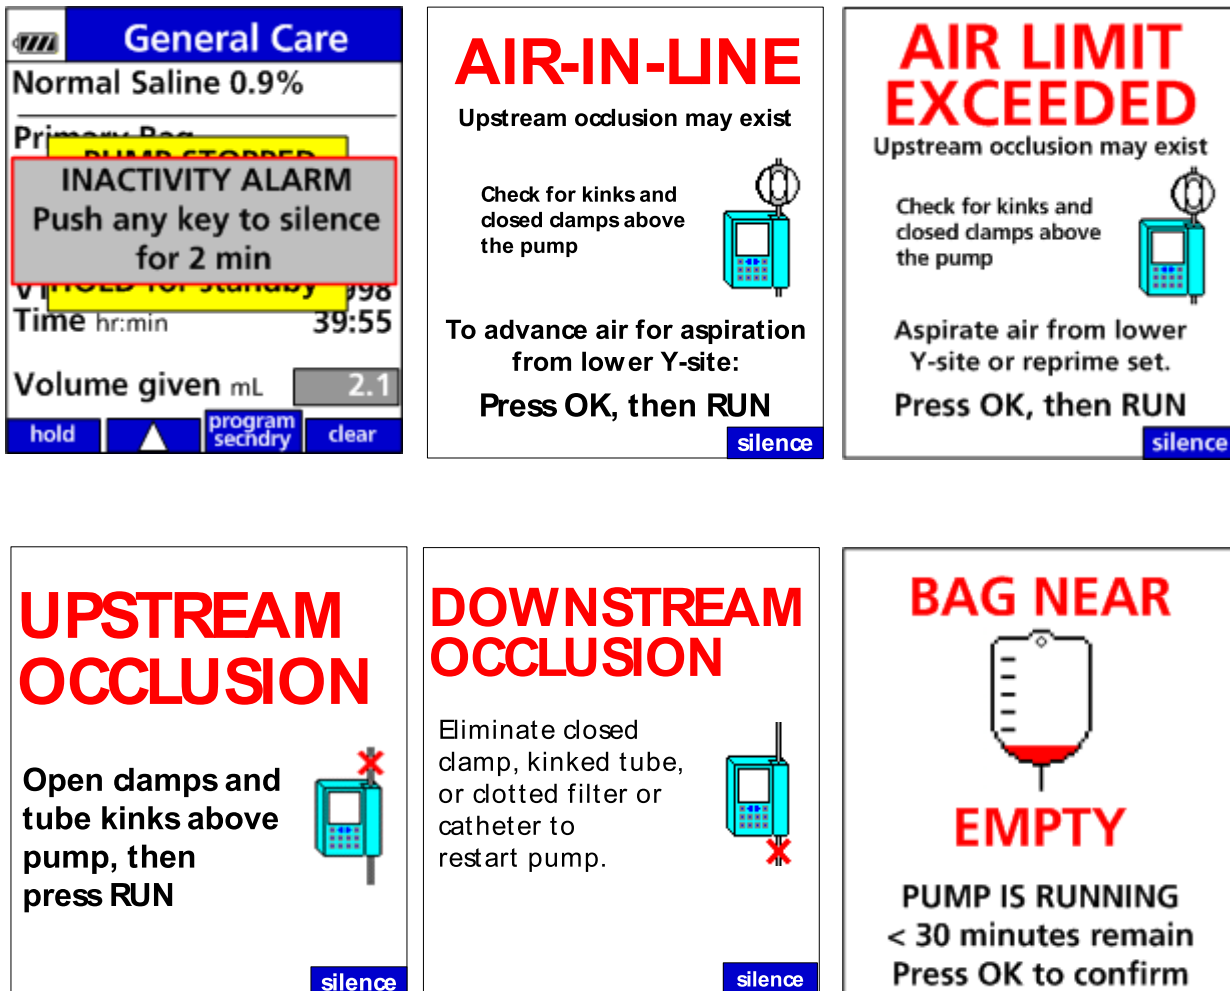

Figure 65. Example Alarms Messages.
*NOTE:* The following alarms will utilize the drug audio alarm setting entered in the MDL Editor when the drug is selected at the pump: Inactivity; Air in line; Air Accumulation; Upstream Occlusion; Downstream Occlusion; Slide Clamp Closed; KVO; Bag Near Empty. (See Figure 65.)